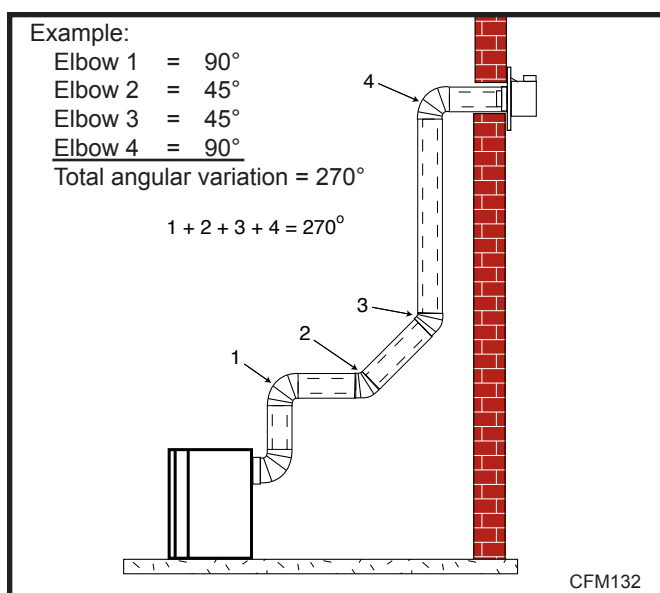

Fig. 29 Maximum number of elbows.
- The maximum number of 45° elbows permitted per side wall installation is two (2). These elbows can be installed in either the vertical or horizontal run.
- The maximum number of elbow degrees in a system is 270°. (Fig. 29)